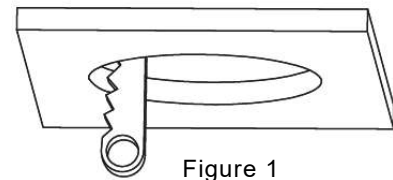

Figure 1
2. After marking the center point of where the fixture will be located, using the provided template cut the required hole shown in figure 1 which has a diameter of 4inches or 108mm.